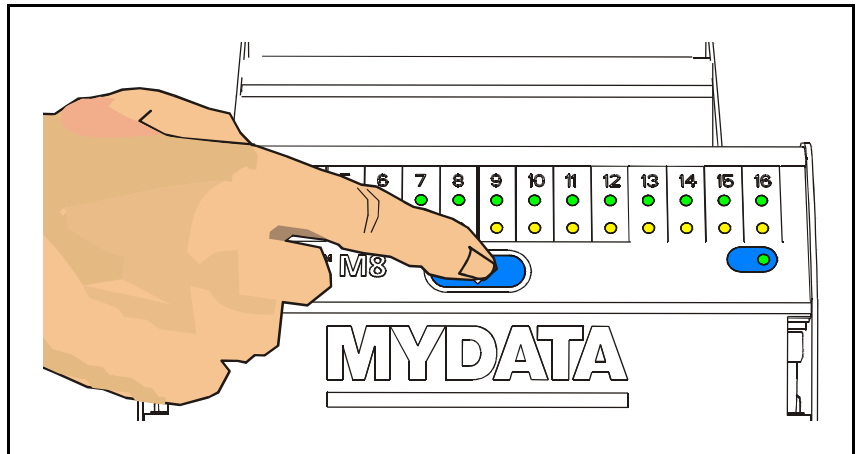

Figure 4-8. Press the release button
1. Press the release button, see Figure 4-8. This tells the machine not to pick components from the magazine.